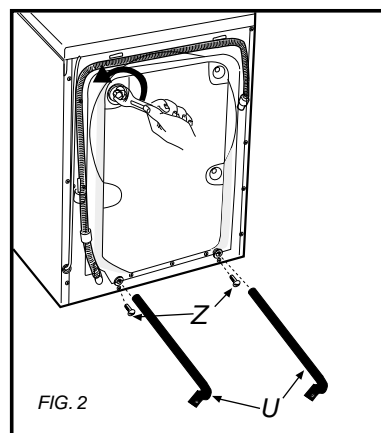

FIG. 2
4. Next, loosen the two locking screws (Z) and remove the two pins (U), as illustrated in Fig. 2. Keep the bolts, screws and pins for future use.